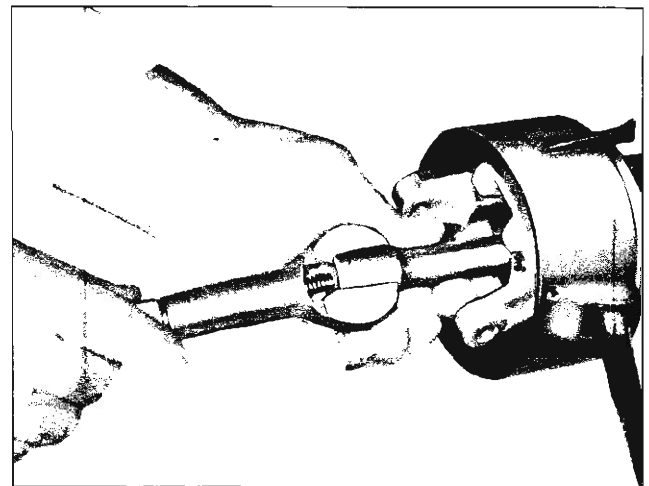

Fig. 24—Removing the Steering Shaft
15. Remove the steering shaft assembly upward through the mast jacket (fig. 24).